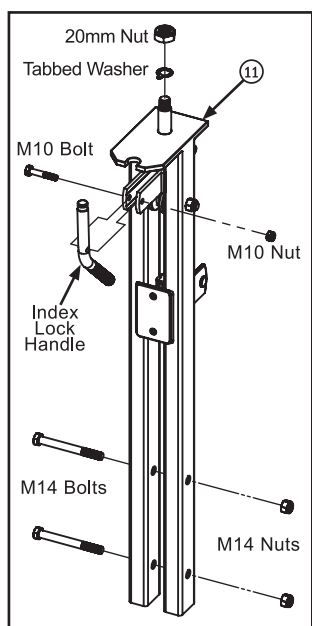
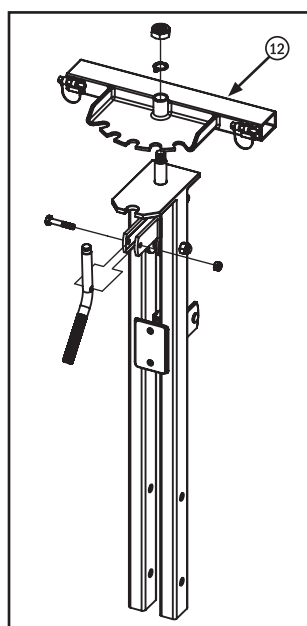
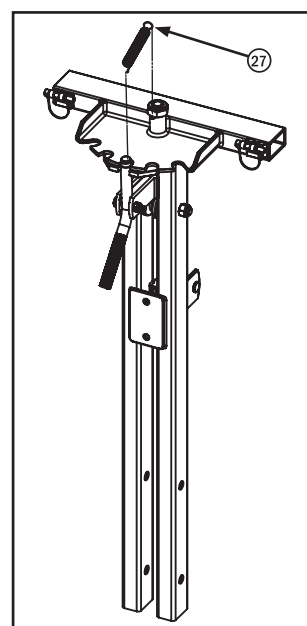

Fig. 17
Fig. 18
Fig. 19
Step 17: Prep the Boom Column. The Boom Column (11) has fasteners and parts that need to be prepared prior to attaching to the Safety Guard (10) vertical tube. Remove the 20mm nut and the tabbed washer from the top of the column. Remove the 10mm Bolt and Nut that hold the Index Lock Handle, and remove the two M14x130 bolts and nuts (Fig. 17). Install the Index Plate (12) onto the top stud, place the tabbed washer on top, then secure in place with the 20mm nut. Turn the Index lock handle around so the knurled handle is on the outside and re-install with the M10 Bolt and Nut (Fig.18). Install the Extension Spring (27) between the tabbed washer and the Index Lock Handle (Fig. 19).